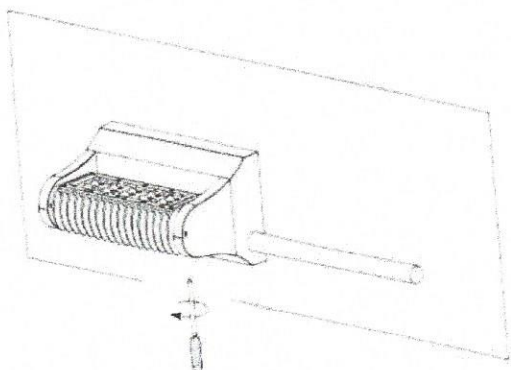

Figure 11
5.Tighten the pipe on the luminaire; adjust viewing angle and tighten screws.(Figure 11)